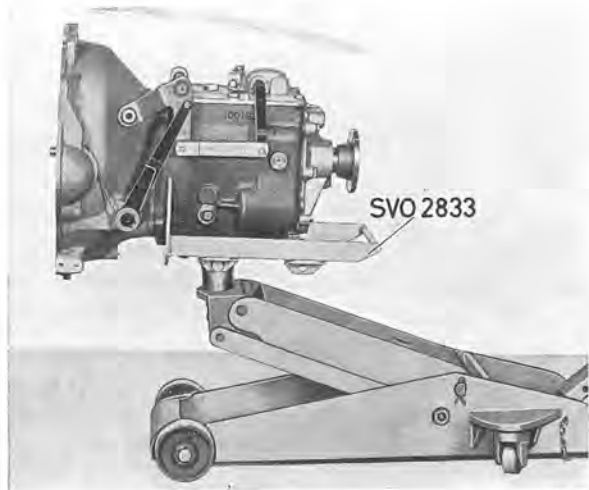

Fig. 4-17. Fixture for removing gearbox
- 2833 Fixture for gearbox. Used on garage jack when removing and fitting gearbox, see Fig. 4-17
6. Replace the lifting plate on the jack with fixture 2833. The pin in the fixture should then be located in its front position for gearbox M 400 and in the rear position for the M 410 gearbox. Support the gearbox with the fixture. Slacken the bolts in the clutch casing. Pull the gearbox rearwards and then lower it, see Fig. 4-17.